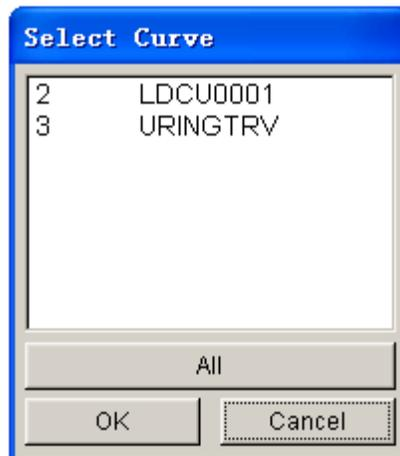

Figure 12.13.3 Select Curve dialog box
- Select a curve listed in the SELECT CURVE dialog box illustrated in Figure 12.13.3. The user can select all curves by selecting the ALL button. The user can select several curves by holding down the CTRL or SHIFT key following by clicking on the OK button to confirm the selection.